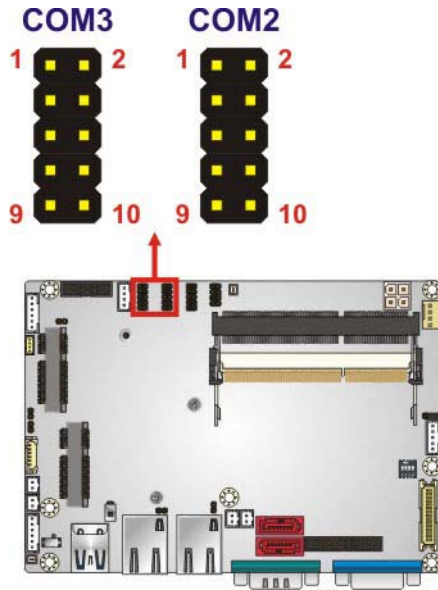

Figure 3-22: RS-232 Serial Port Connector Locations
- CN Location:** See **Figure 3-22**